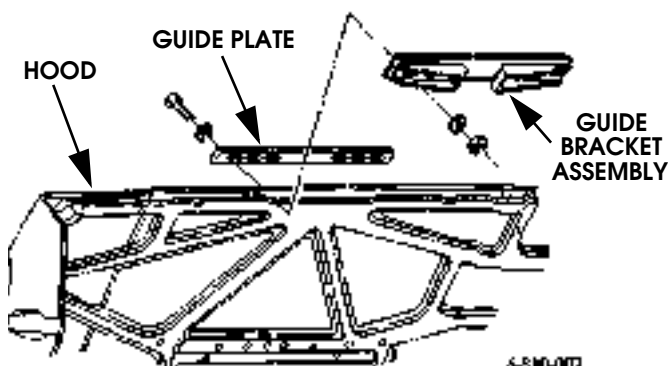

Figure 10-93: Bracket Assembly Replacement
Remove six locknuts, twelve washers, guide bracket assembly, guide plate, and six bolts from hood (Figure 10-93).
1. Loosely attach guide plate and guide bracket assembly to hood with six bolts, twelve washers, and six locknuts. Tighten locknuts to 10 lb-ft (14 N•m) (Figure 10-93).
3. Mark guide bracket assembly position, raise hood, and tighten locknuts to 10 lb-ft (14 N•m) (Figure 10-93).